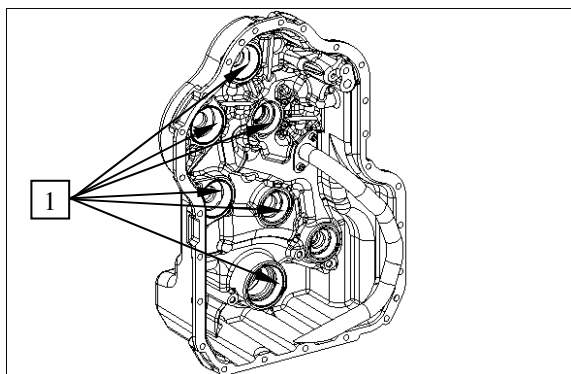

Figure 19
Insert all bearing outer rings (1) into the bearing holes of both housing parts (see Figures 19 and 20).